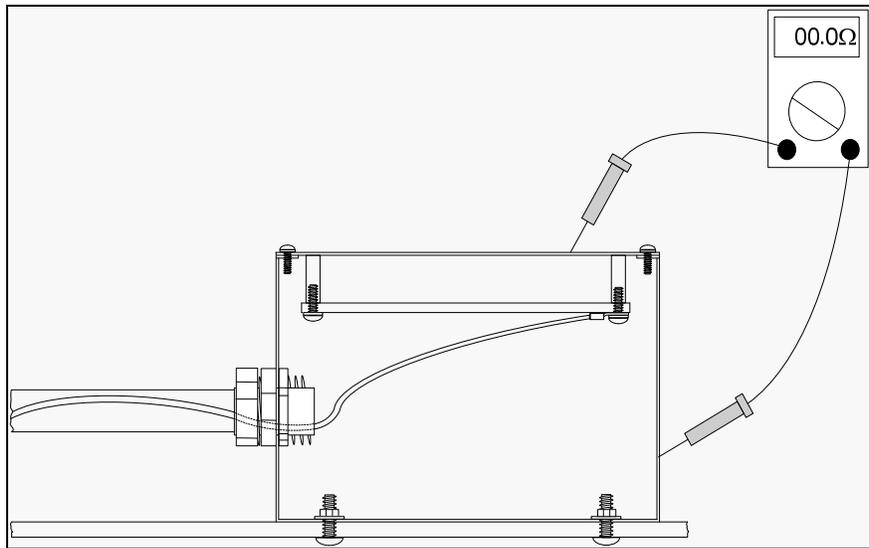

Figure 19 Continuity Testing - Faceplate to Enclosure
Step 2: Measure the resistance from the faceplate to the enclosure as shown in **Figure 19** below.